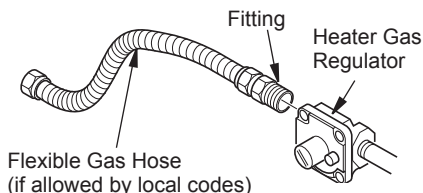

Figure 11 - Attaching Flexible Gas Hose to Heater Gas Regulator
1. Apply pipe joint sealant lightly to male threads of fitting to be threaded into gas regulator. Connect approved flexible gas hose to gas regulator of heater (see Figure 11).